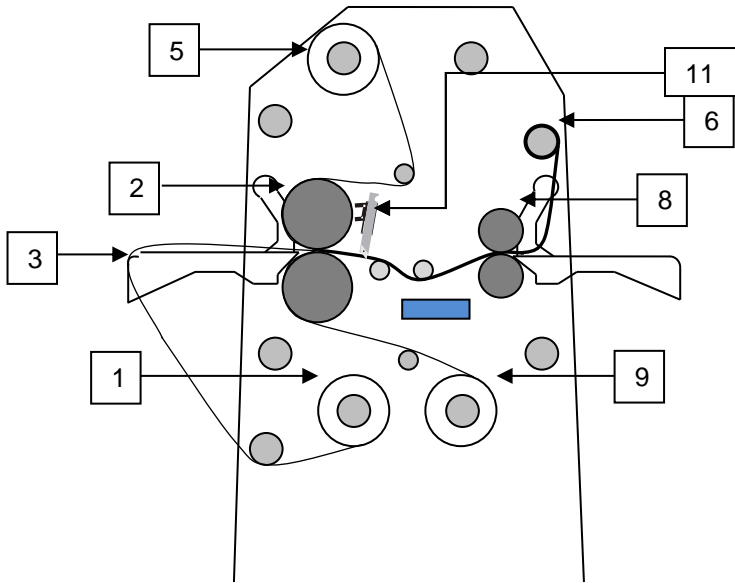

Figure 6
*A process that makes maximum use of the machine is shown in figure 6.*